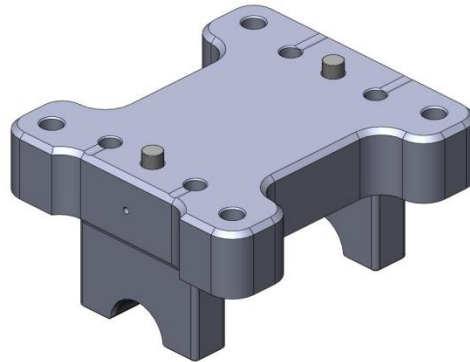

Figure 3.10. Dowel pins pressed into bottom of Locker Pin Base.
3.14 Prep Work – Build (4) Locker Assemblies (D071450)
- Press (2) 3/8"x1.0" dowel pins into each of (4) **Locker Pin Bases** (D047936), as shown in Figure 3.10. Pins should stand .25" proud of the bottom surface.